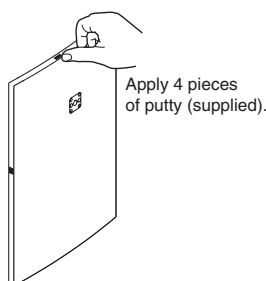

Figure 15 — Applying the putty to speaker grill
1. After removing the grill, press four pieces of putty onto the outer edges of the grill, one on each edge (see figure 15).